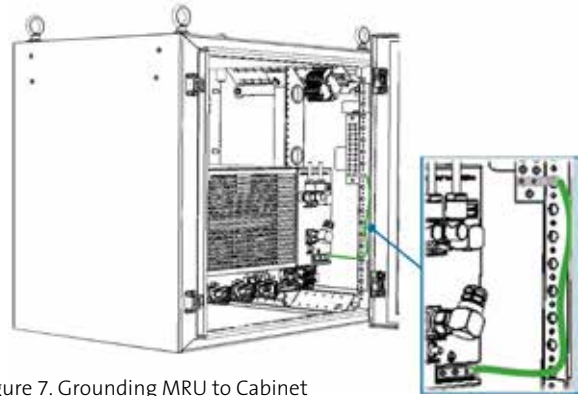

Figure 7. Grounding MRU to Cabinet
- Step 2:** Using one of the grounding cables provided with the cabinet, ground the MRU chassis via the two-hole, standard-barrel grounding lug located on the front panel to one of the cabinet grounding bolts. Refer to Figure 7.